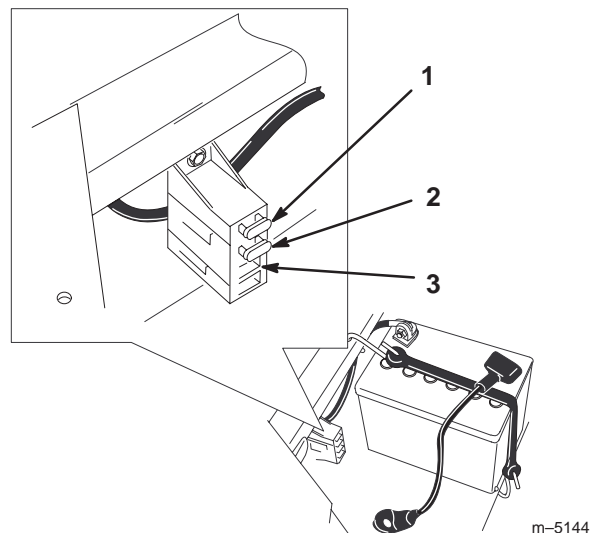

Figure 47
- Raise the seat to gain access to the fuse holder (Fig. 47).
- To replace a fuse, pull out on the fuse to remove it (Fig. 47).